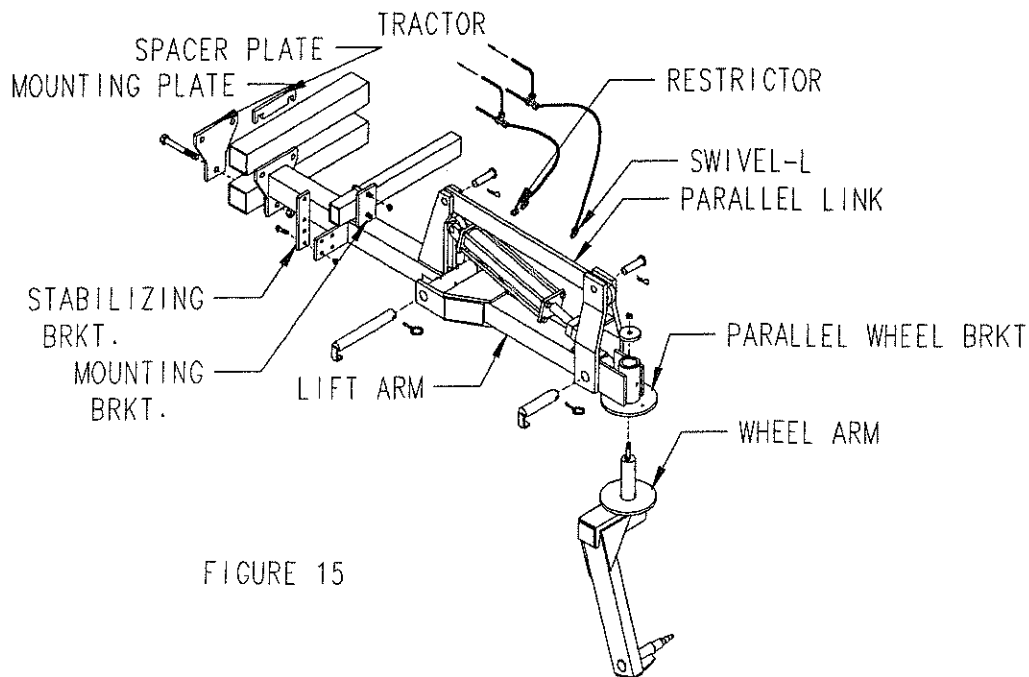

FIGURE 15
MOUNTING THE LIFT ASSIST WHEELS (Figure 15)
3. Carefully insert the lift assist mounting bracket over the walkboard between the openers. The small 2" X 2" tube welded to the end of the bracket will sit on top of the lower, front main frame bar. If the top, front main frame bar is 3 1/2" X 3 1/2" add the 1/2" spacer plate which will sit on top of the same 2" X 2" tube. It may be necessary to lower some of the openers to give ample working room. See Figure 15.
9. Install the 2 1/2" hydraulic cylinder as shown in Figure 15.
12. Tee the lines to corresponding parts of each cylinder and run hoses to the tractor. See Figure 15.